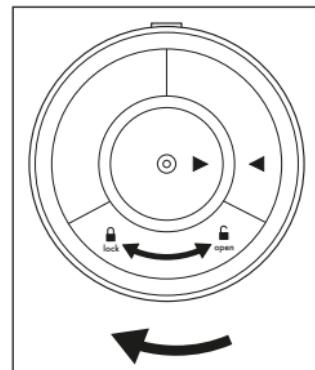

Fig. 2
7. Replace the battery compartment latch ⑬. Turn the battery compartment latch ⑬ clockwise towards the **lock**  symbol until the two symbols ► ◀ are aligned and the battery compartment latch ⑬ audibly clicks into place (see fig. 2).
8. Place the main appliance ⑦ back onto the soap tank ⑧. Then turn the soap tank ⑧ clockwise until it is sitting tight and secure on the main appliance ⑦. The appliance is now ready for use.